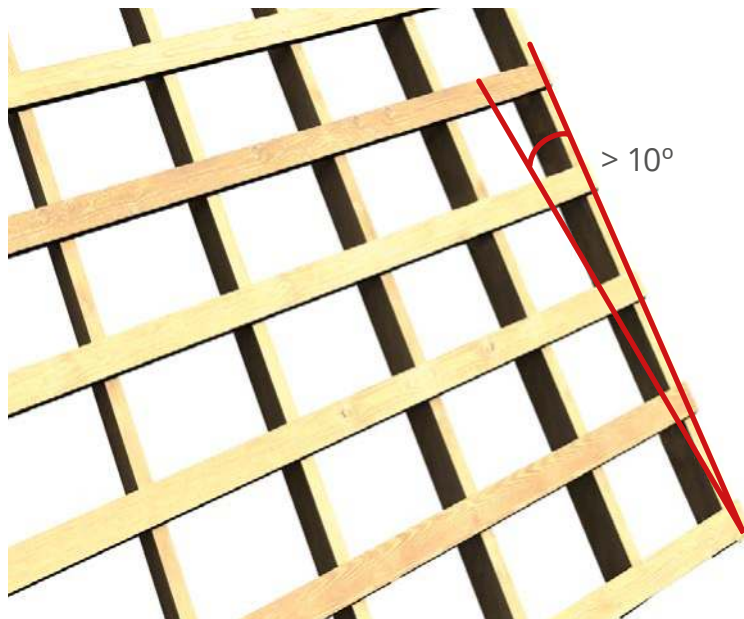
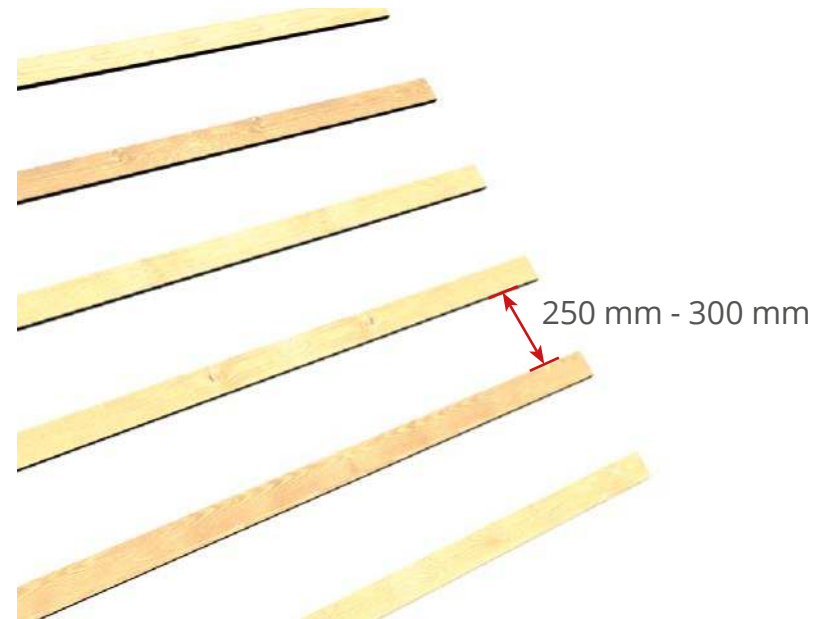

Fig. 1
Fig. 2
**1.2** Double seam installation is applicable for roof inclination that exceeds 10 degrees (Fig. 1); **the battens should be laid every 250-300 mm**, parallel to the first fastened row (Fig. 2).